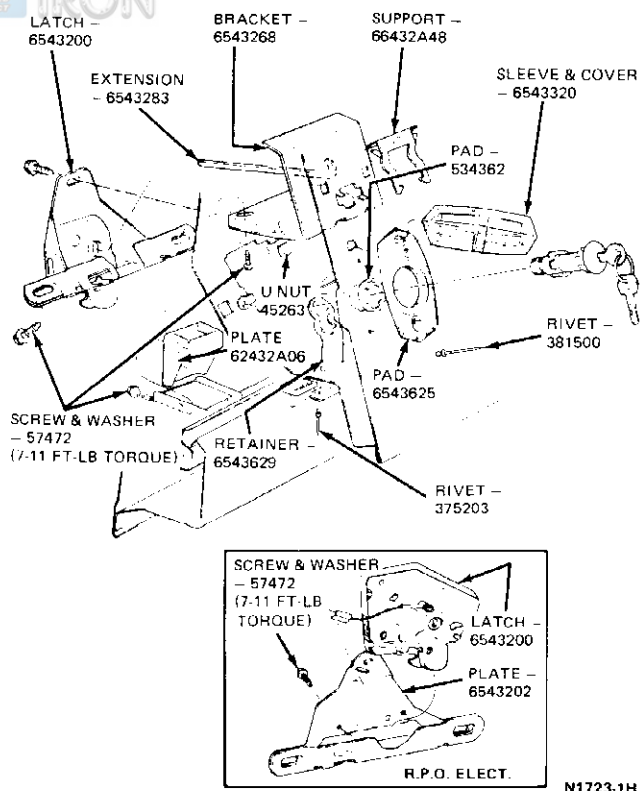

FIG. 15 Luggage Compartment Latch and Lock Continental Mark V
2. Remove the lock cylinder retainer screw and/or rivet. Remove the retainer, and remove the lock cylinder (Figs. 15 through 24).